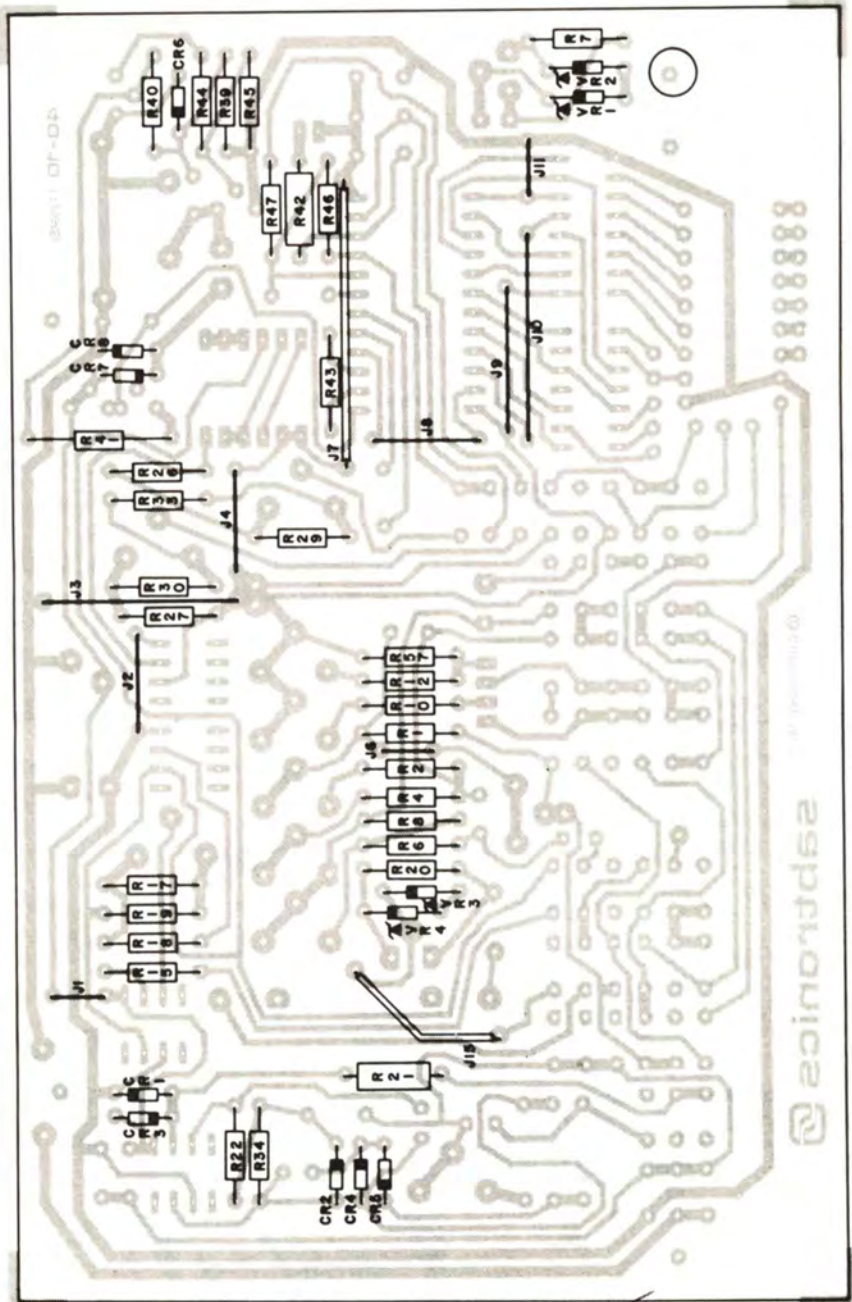

Figure 1
Refer to Figure 1 for the following steps.
- [] Before proceeding with the switch assembly, verify that only the parts shown in Figure 1 are installed.